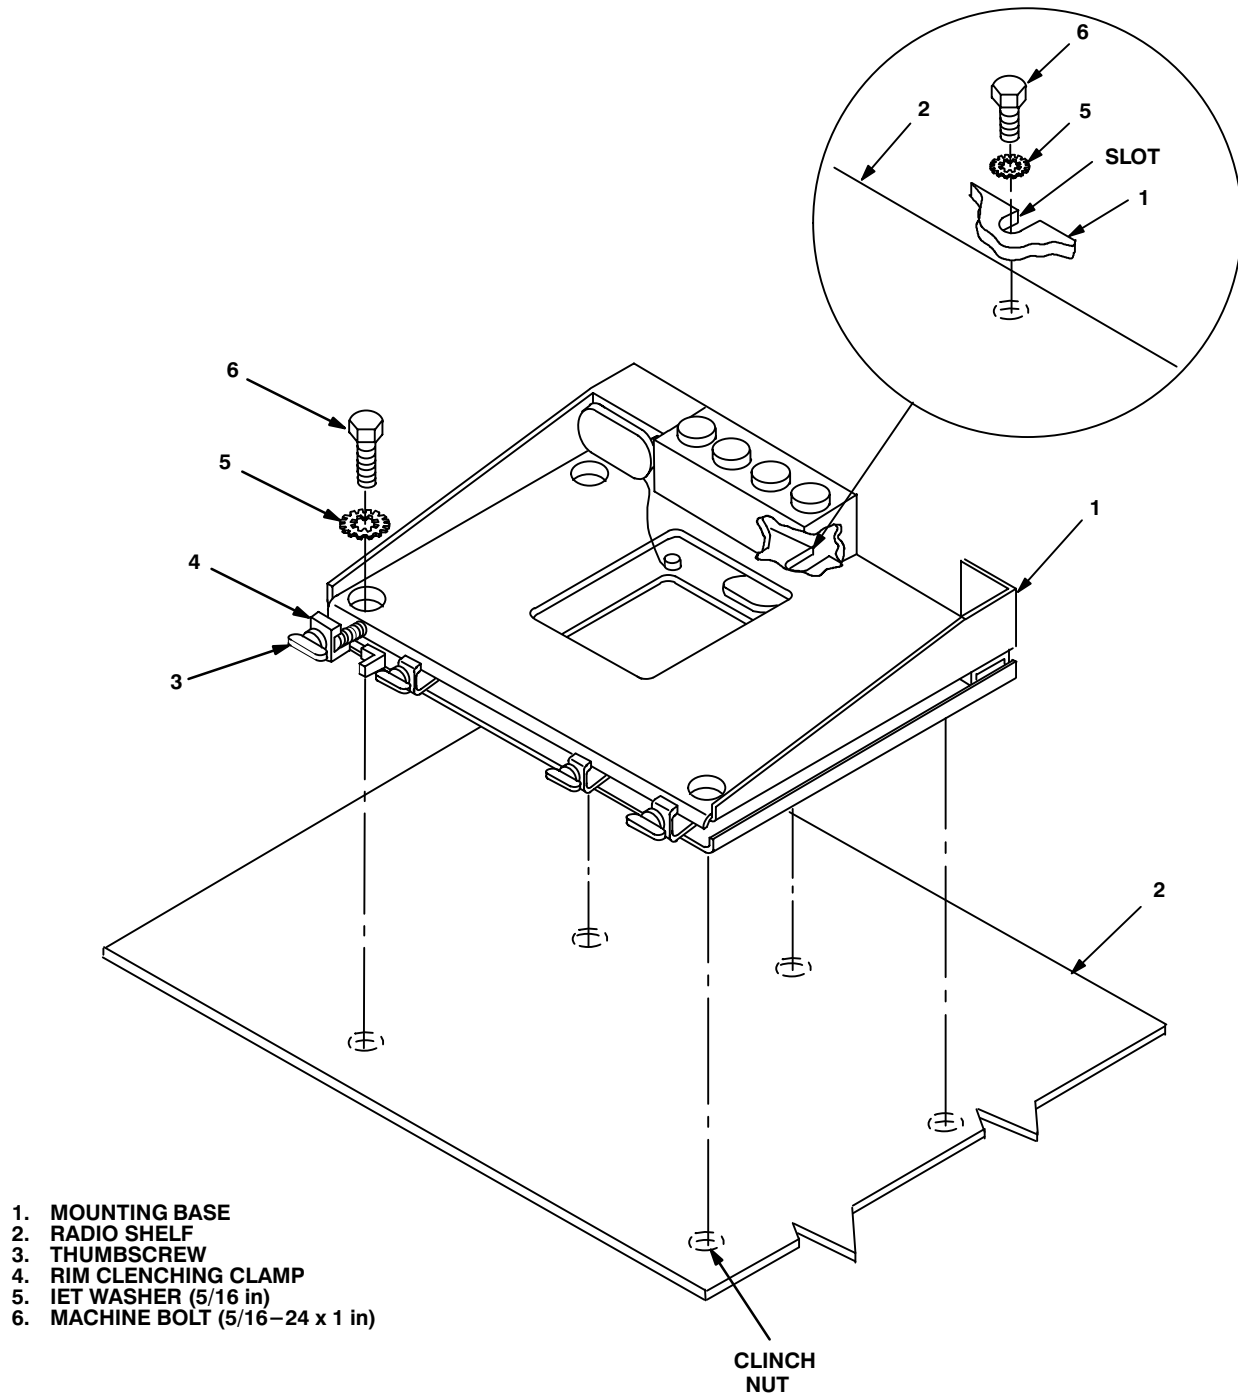

Figure 5-9. Mounting Base Installation
5.3 Installation of Mounting Base, Electrical Equipment MT-6352/VRC (mounting base). Remove and retain attaching bag of 5/16 in mounting hardware for installation. To insure good electrical grounding, any rust, corrosion or paint around mounting holes in radio shelf should be removed before installing the mounting base. See figure 5-9 and perform the following steps.